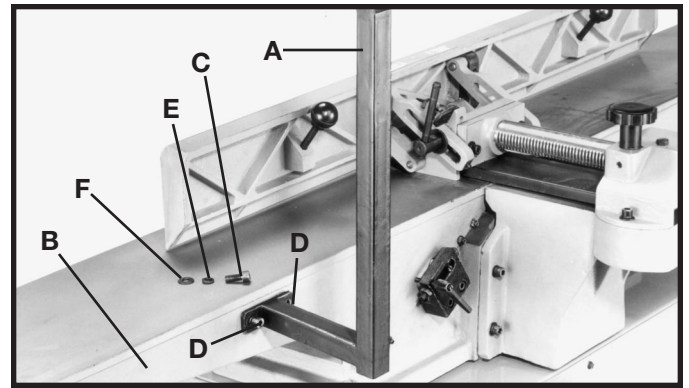

Fig. 22
1. Align the two holes in the switch mounting bracket (A) Fig 22, with the two holes (D) in the back of the infeed table (B). Place an M8.1 lockwasher (E) Fig. 22, then an M8 flat washer (F), on an M8x1.25x16mm hex socket head screw (C). Insert the screw through the hole (D) Fig. 22, in the switch mounting bracket (A) and thread the screw into the tapped hole in the back of the infeed table (B), and tighten securely. Repeat this process for the remaining hole in the switch mounting bracket and the infeed table.